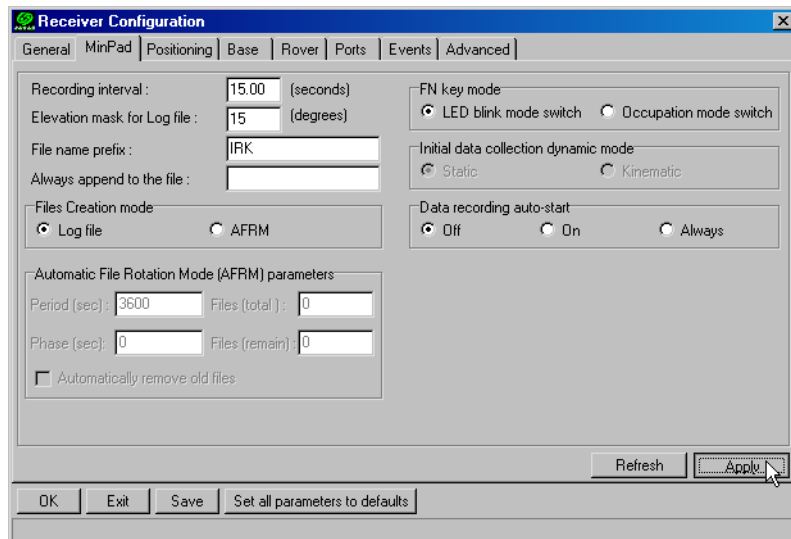

Figure 3-5. Configuration->Receiver->MinPad
2. Open PCView, click **Configuration->Receiver->MinPad** and specify the following parameters, then click Apply (Figure 3-5):